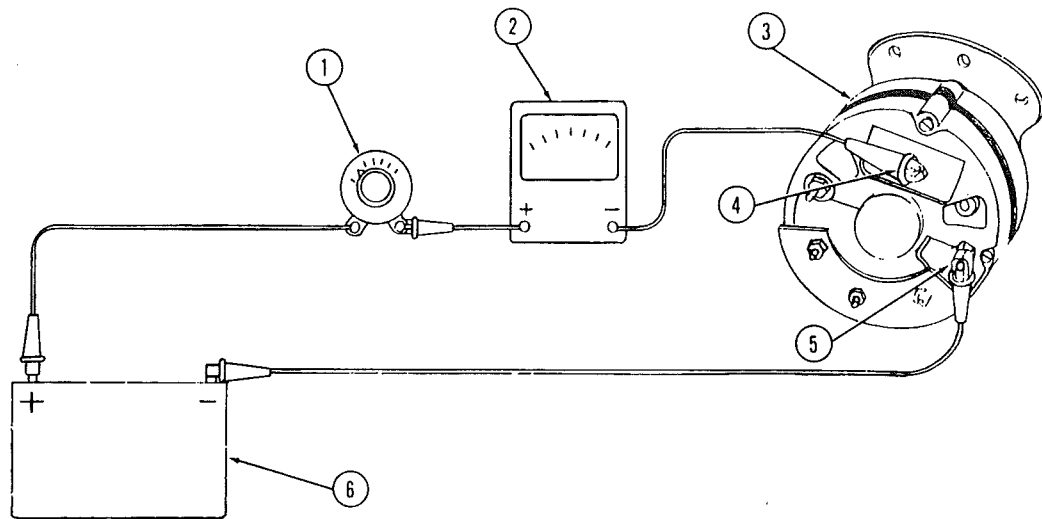

FIG. 74—ROTOR TEST
- a. Check the field coil for a short circuit by connecting a fully charged 25.2-volt battery and an ammeter in series with the two slip rings, as shown in Fig. 74. Place a rheostat in series in the circuit to protect the instruments and components of the alternator. Set the rheostat to maximum resistance (40 ohms) before making connections.
If the rotor is found to be defective in above tests, repeat the above tests when the rotor is removed from the alternator by connecting the circuit (Fig. 74) to the rotor slip rings to obtain findings. Field current will be approximately 0.2 ampere higher than the maximum value in use of the normal brush-to-slip ring contact resistance that reduces field current slightly. If the rotor is defective, replace it.